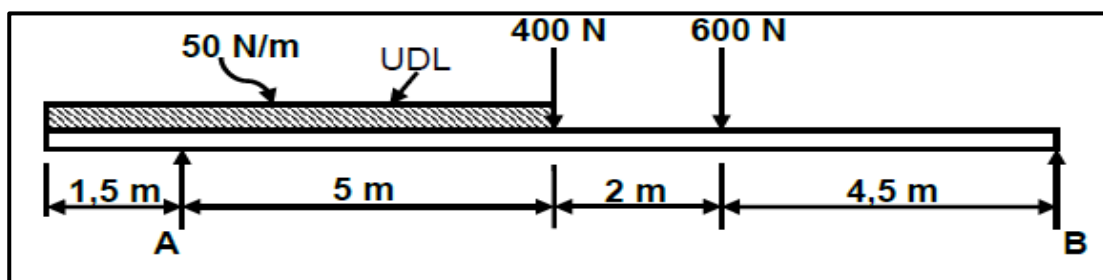

FIGURE 8.2
8.2 FIGURE 8.2 below shows a beam with two vertical applied point loads of 400 N and another 600 N and also a 50 N/m uniformly distributed load for a span of 6,5 m.